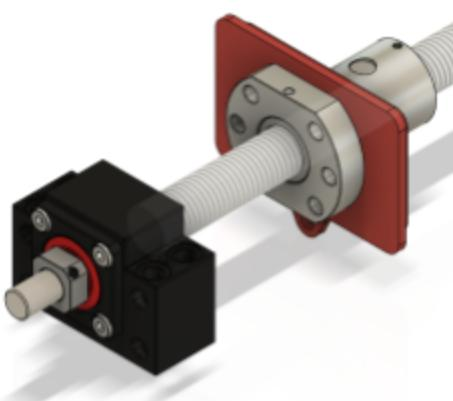

Figure 12.8
12. Place the Ball Screw Face Plate Front directly behind the ball screw nut as shown in Figures 12.8 and 12.9.